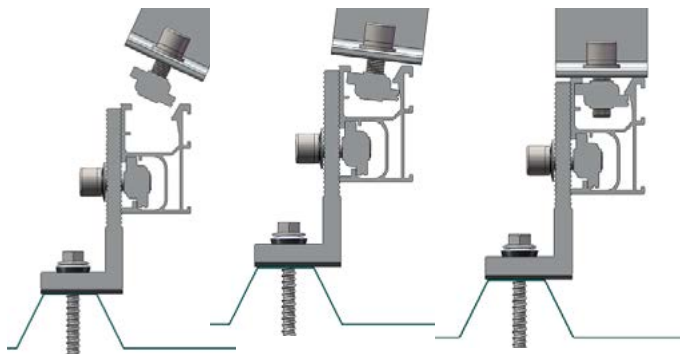

Figure 11
5.3.2 Fix the Rear Leg into the top channel of ECO Rail, then fasten the Rear Leg after the position is adjusted properly as shown in Figure 11 and 12.